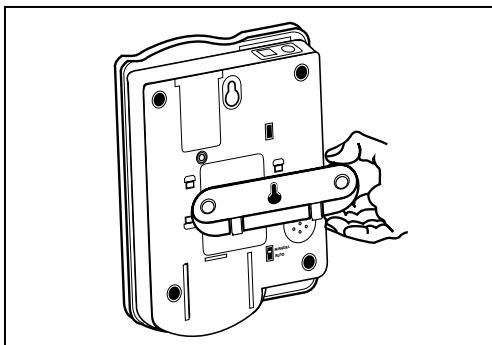

Figure 5- Phone base installation for wall mounting
2. Insert the tabs of the phone base into the slots in the lower position of the base. Push in and down firmly until it snaps into place as shown in figure 5.